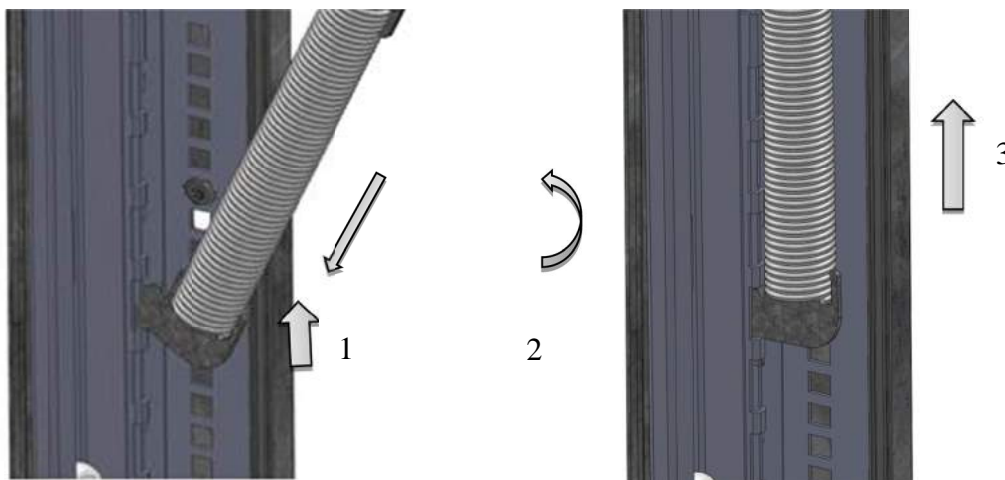

Figure 38: spring tensioning steps
- repeat operation 4 (springs tensioning) by selecting another notch where to place your connection plate, upwards or downwards (see figure 38).